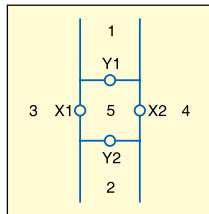

Fig. 4: Captured frame
1. Divide the frame captured by the camera (refer Fig. 4) into five parts by means of points 'x1' and 'x2' on X-axis and points 'y1' and 'y2' on Y-axis.